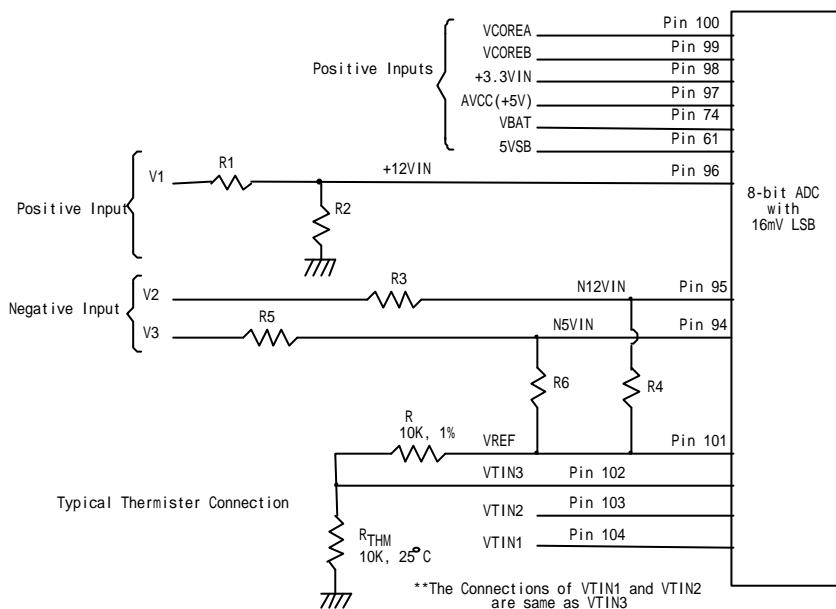

Figure. 9.2
The maximum input voltage of the analog pin is 4.096V because the 8-bit ADC has a 16mV LSB. Really, the application of the PC monitoring would most often be connected to power suppliers. The CPU V-core voltage, +3.3V, battery and 5VSB voltage can directly connected to these analog inputs. The +12V, -12V and -5V voltage inputs should be reduced a factor with external resistors so as to obtain the input range. As Figure 9.2 shows.
The negative voltage should be connected two series resistors and a positive voltage VREF (is equal to 3.6V). In the Figure 9.2, the voltage V2 and V3 are two negative voltage which they are -12V and -5V respectively. The voltage V2 is connected to two serial resistors then is connected to another terminal VREF which is positive voltage. So as that the voltage node N12VIN can be obtain a posedge voltage if the scales of the two serial resistors are carefully selected. It is recommended from Winbond that the scale of two serial resistors are $R3=232K$ ohms and $R4=56K$ ohm. The input voltage of node N12VIN can be calculated by following equation.
The W83697HF can connect three thermistors to measure three different environment temperature. The specification of thermistor should be considered to (1) β value is 3435K, (2) resistor value is 10K ohms at 25°C. In the Figure 9.2, the thermistor is connected by a serial resistor with 10K Ohms, then connect to VREF (Pin 101).